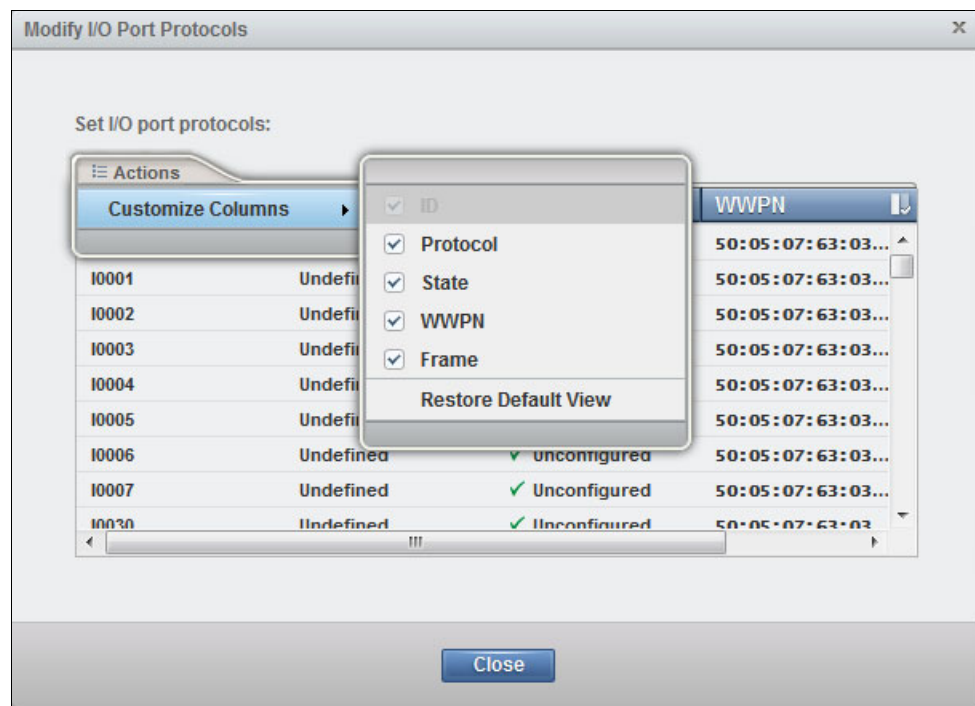

Figure 7-6 Determining the I/O port WWPN
4. Click **Actions**, and then select **Customize Columns** to include the WWPN and Frame in the view. You receive the full list of each installed I/O port with its WWPN and its physical location, as shown in Figure 7-6.